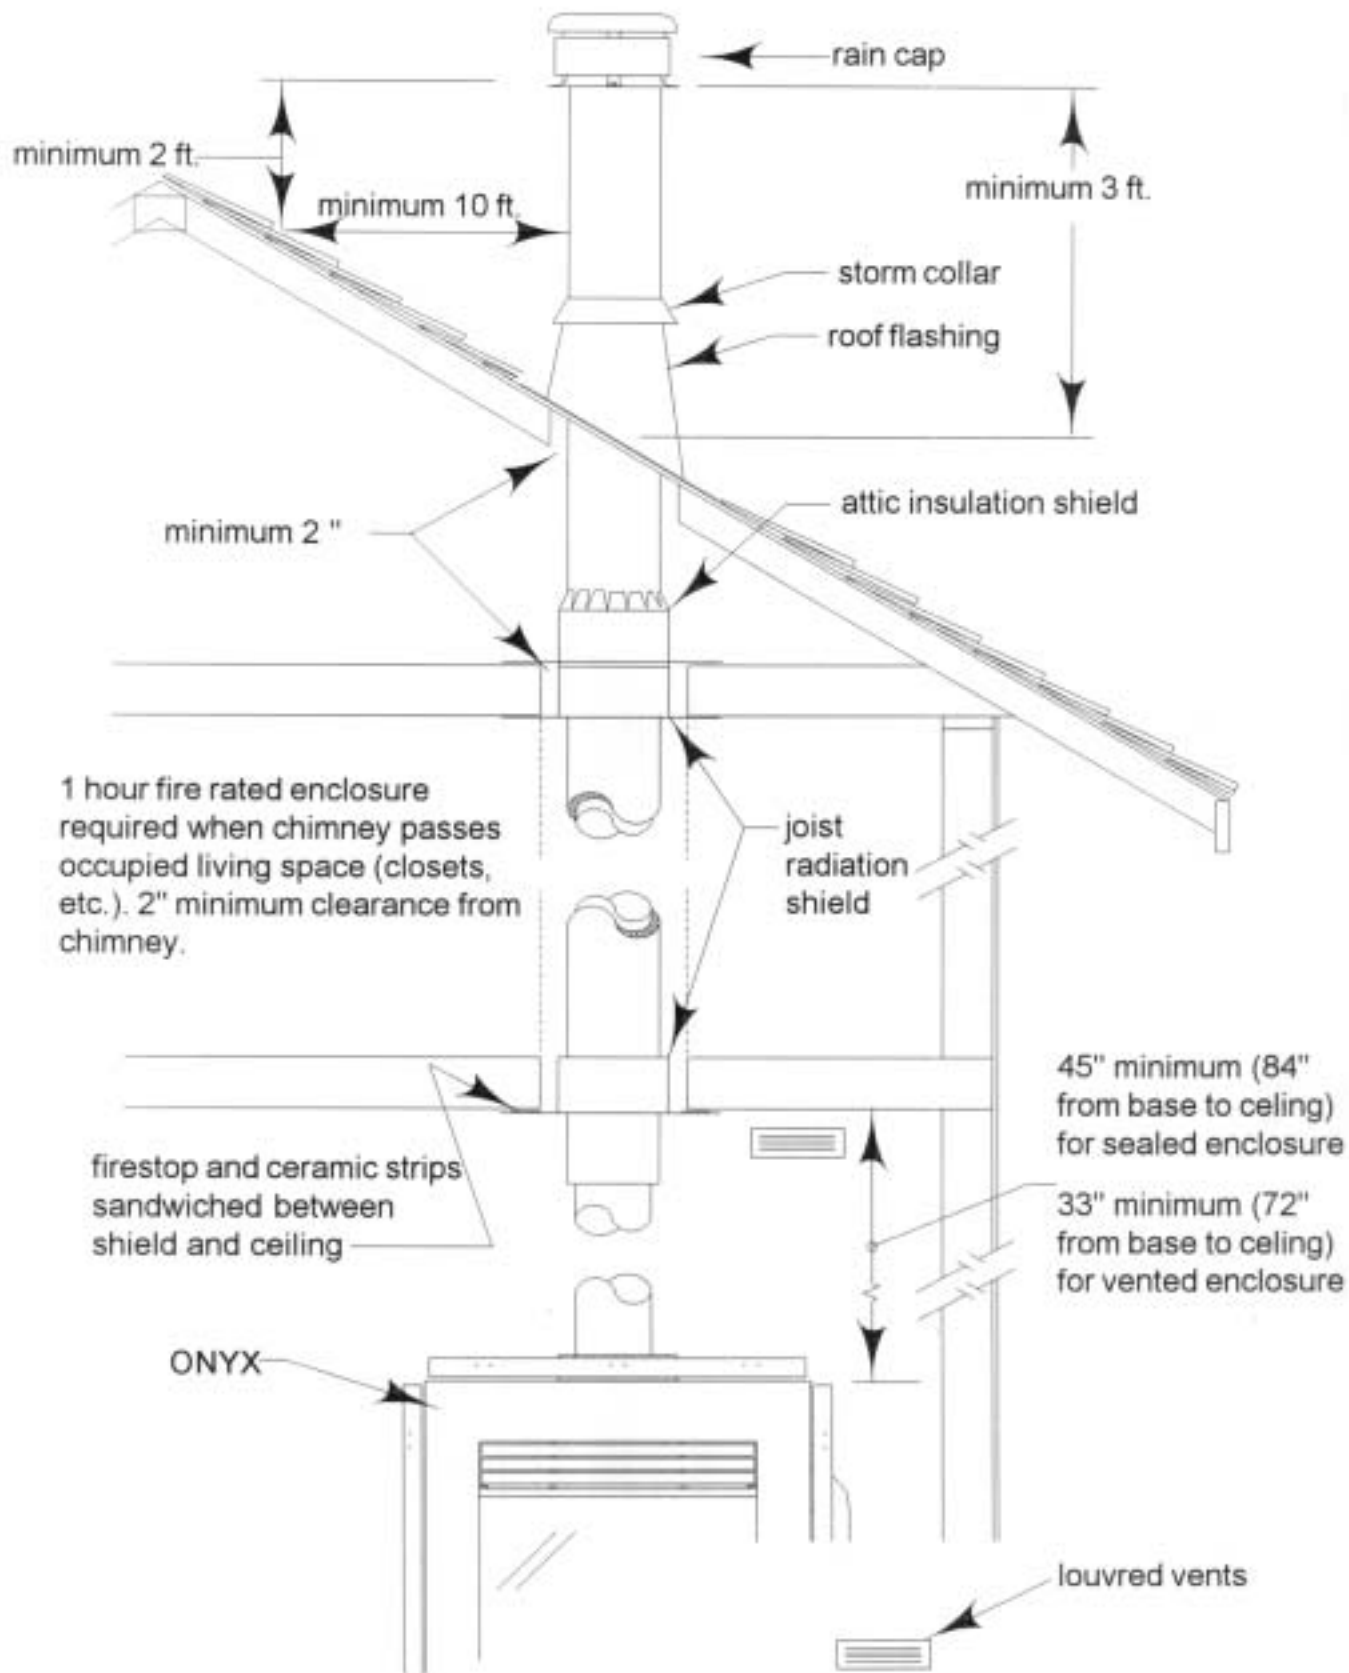

Figure 12: Chimney installation
2. From below, install a radiation shield in each floor though which the chimney passes. At the attic level, install an attic insulation shield (if required) as shown in Figure 12. The first radiation shield above the fireplace must have strips of ceramic felt placed between the shield and the ceiling. These strips come with the fireplace. (See Figures 2 & 12).